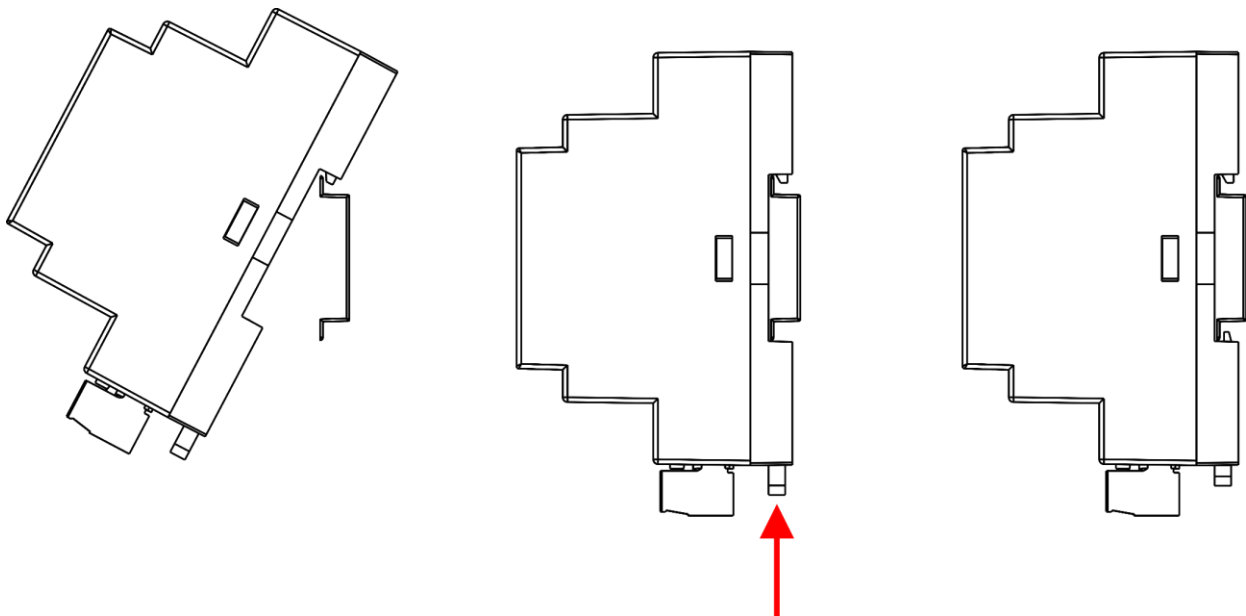

Fig. 04
- 02) Push the **DIN rail locks (08)** to mount the device firmly on the DIN rail (see Fig. 04).